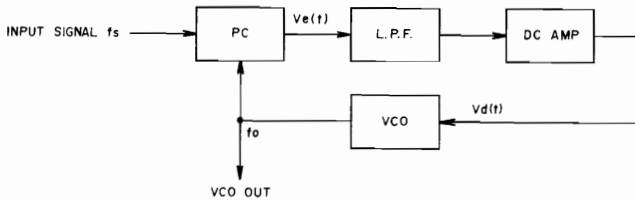

Fig. 9 PLL Circuit
PLL circuit is a kind of feedback circuit and is comprised of a Phase Comparator (PC), a Low Pass Filter (LPF), a Direct Current Amplifier (DC Amp.), and a Voltage Control Oscillator (VCO) as shown in Fig. 9.
Accordingly, for composite stereo signal demodulation, the sub carrier used for demodulation at the transmitter must be the same uniform 38 kHz signal as the frequency and phase. If the 38 kHz waveform is asymmetrical, channel separation will become poor. At the PLL employed MPX stereo demodulator circuit, as shown in Fig. 9, first a 76 kHz signal is oscillated and when this passes the divider, a symmetrical 38 kHz signal is obtained.